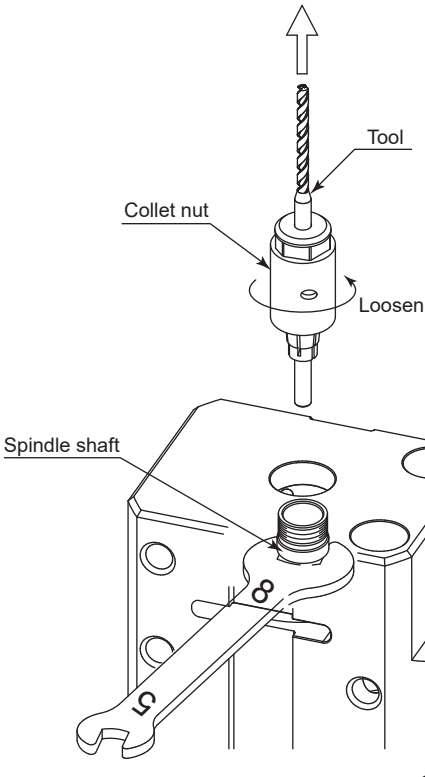

Fig. 4
- (1) Loosen the collet nut with the cutting tool installed as described in section " 8. CHANGING THE TOOL ". Keep turning the collet nut until it comes out of the spindle shaft together with the cutting tool, and then remove the cutting tool from the collet. (Fig. 4)